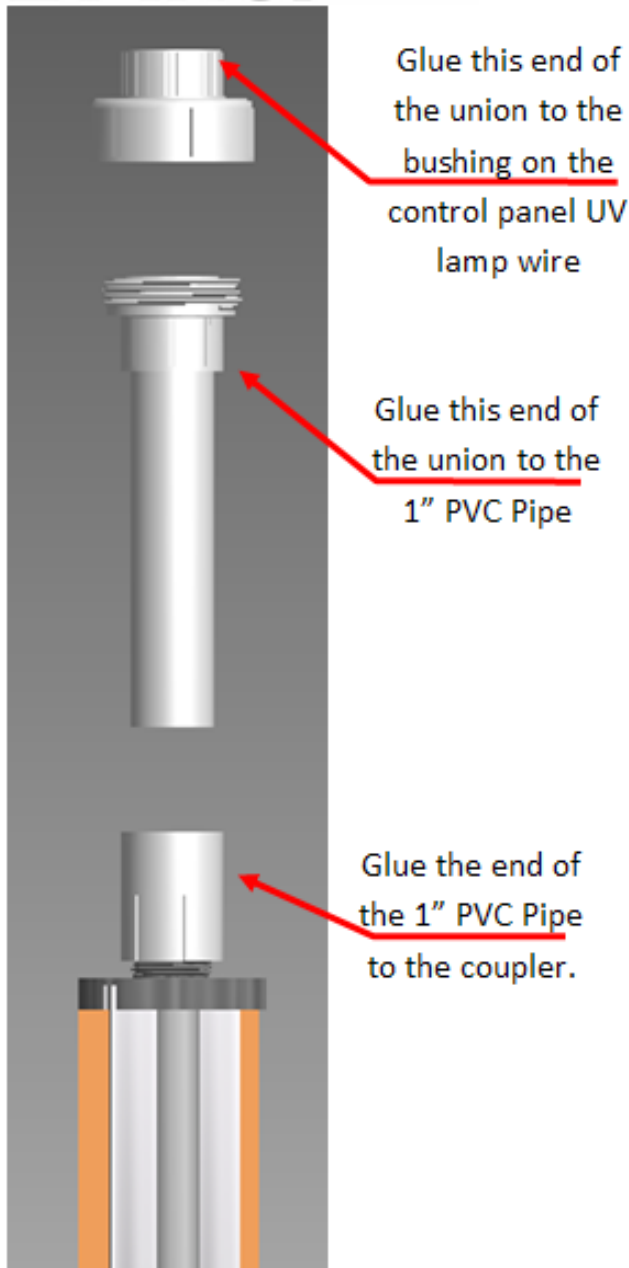

FIGURE 3
3. Glue the bottom side of the union to one end of the 1" PVC pipe. See figure 3. Glue the opposite end of the union to the bushing on the control panel UV lamp wire.